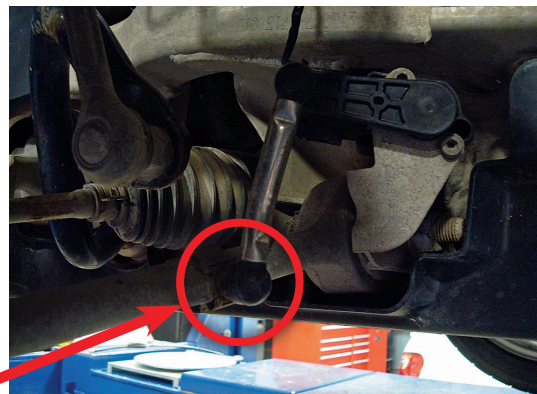

fig. D.3
2. On vehicles with headlight alignment systems, disconnect the linkage from the control arm (Figs. D.3 & D.4)